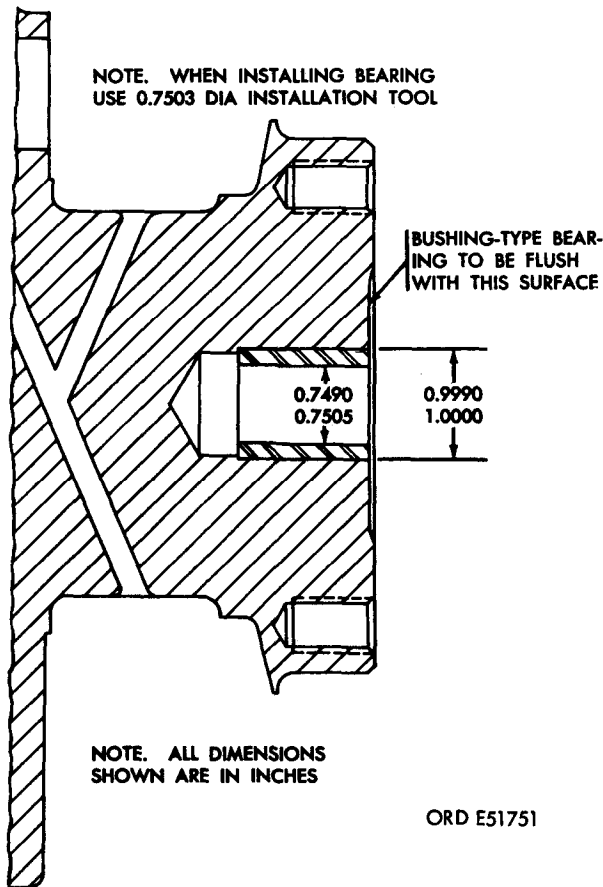

FIGURE 95. BUSHING-TYPE PILOT BEARING INSTALLATION INSTRUCTIONS .
- (2) Refer to figure 95 and check edge of bearing. Edge of bearing must be flush with flange on crankshaft.